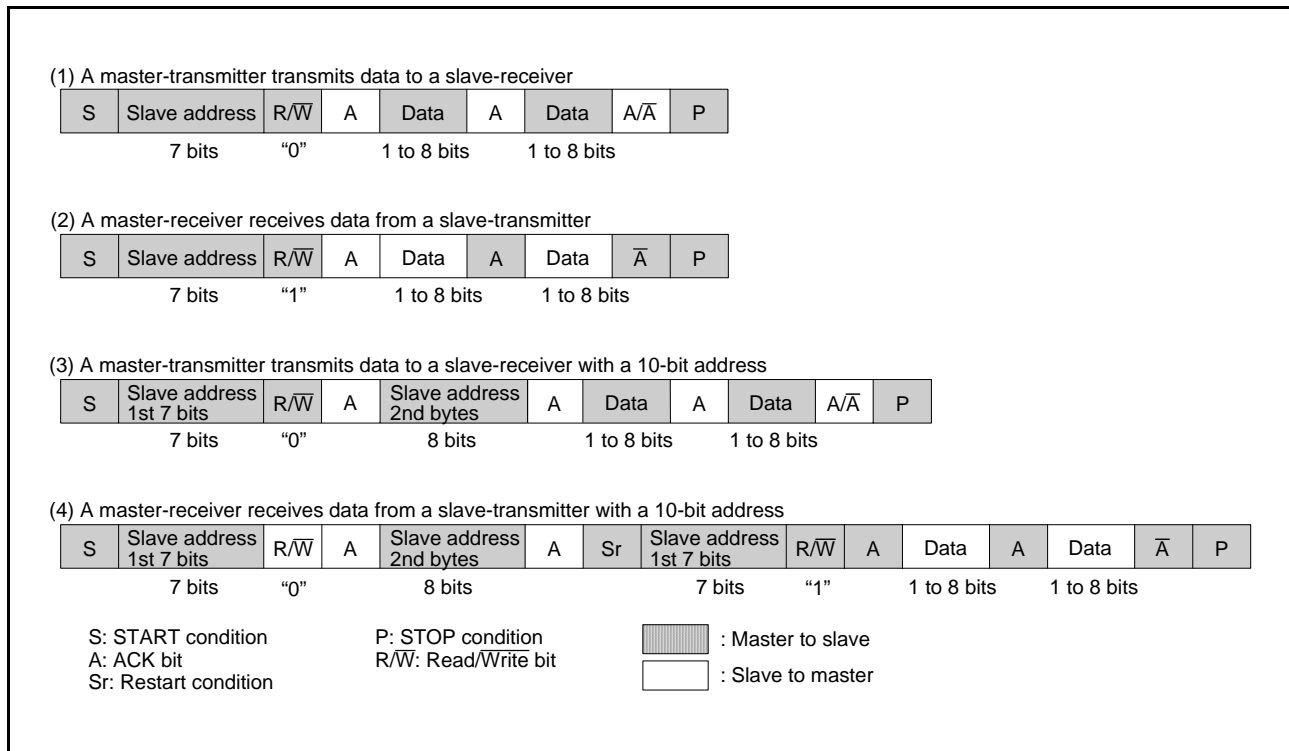

Fig. 73 Address data communication format
To adapt the 7-bit addressing format, set the 10BIT SAD bit of the I²C control register (S1D: address 0014₁₆) to “0”. The first 7-bit address data transmitted from the master is compared with the high-order 7-bit slave address stored in the I²C slave address register. At the time of this comparison, address comparison of the RWB bit of the I²C slave address register is not performed. For the data transmission format when the 7-bit addressing format is selected, refer to Figure 73, (1) and (2).
When the first-byte address data agree with the slave address, the AAS bit of the I²C status register (S1: address 0013₁₆) is set to “1”. After the second-byte address data is stored into the I²C data shift register (S0: address 0011₁₆), perform an address comparison between the second-byte data and the slave address by software. When the address data of the 2 bytes agree with the slave address, set the RWB bit of the I²C slave address register to “1” by software. This processing can make the 7-bit slave address and R/ \bar{W} data agree, which are received after a RESTART condition is detected, with the value of the I²C slave address register. For the data transmission format when the 10-bit addressing format is selected, refer to Figure 73, (3) and (4).